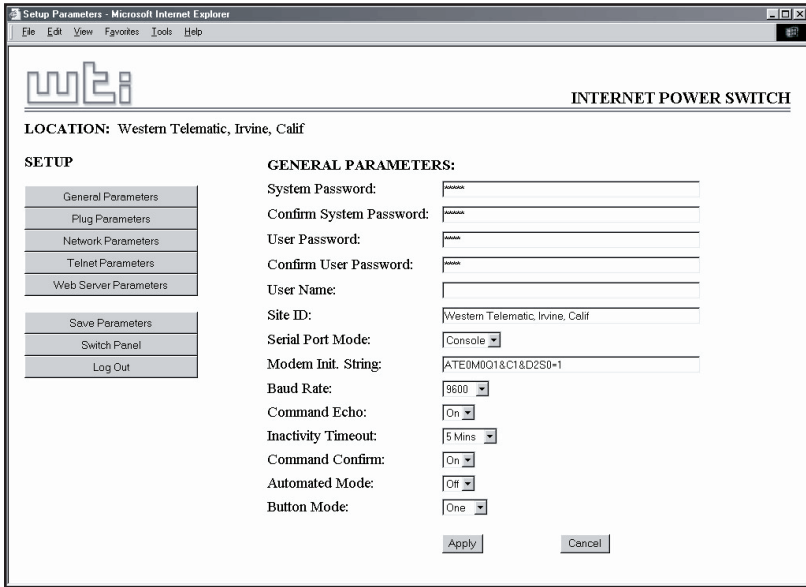

Figure 5.3: General Parameters Menu - Web Browser Interface
**Web Browser Interface:** Click the "Setup" button to access the Setup Menus, and then click the "General Parameters" button. The General Parameters Menu will be displayed as shown in Figure 5.3.